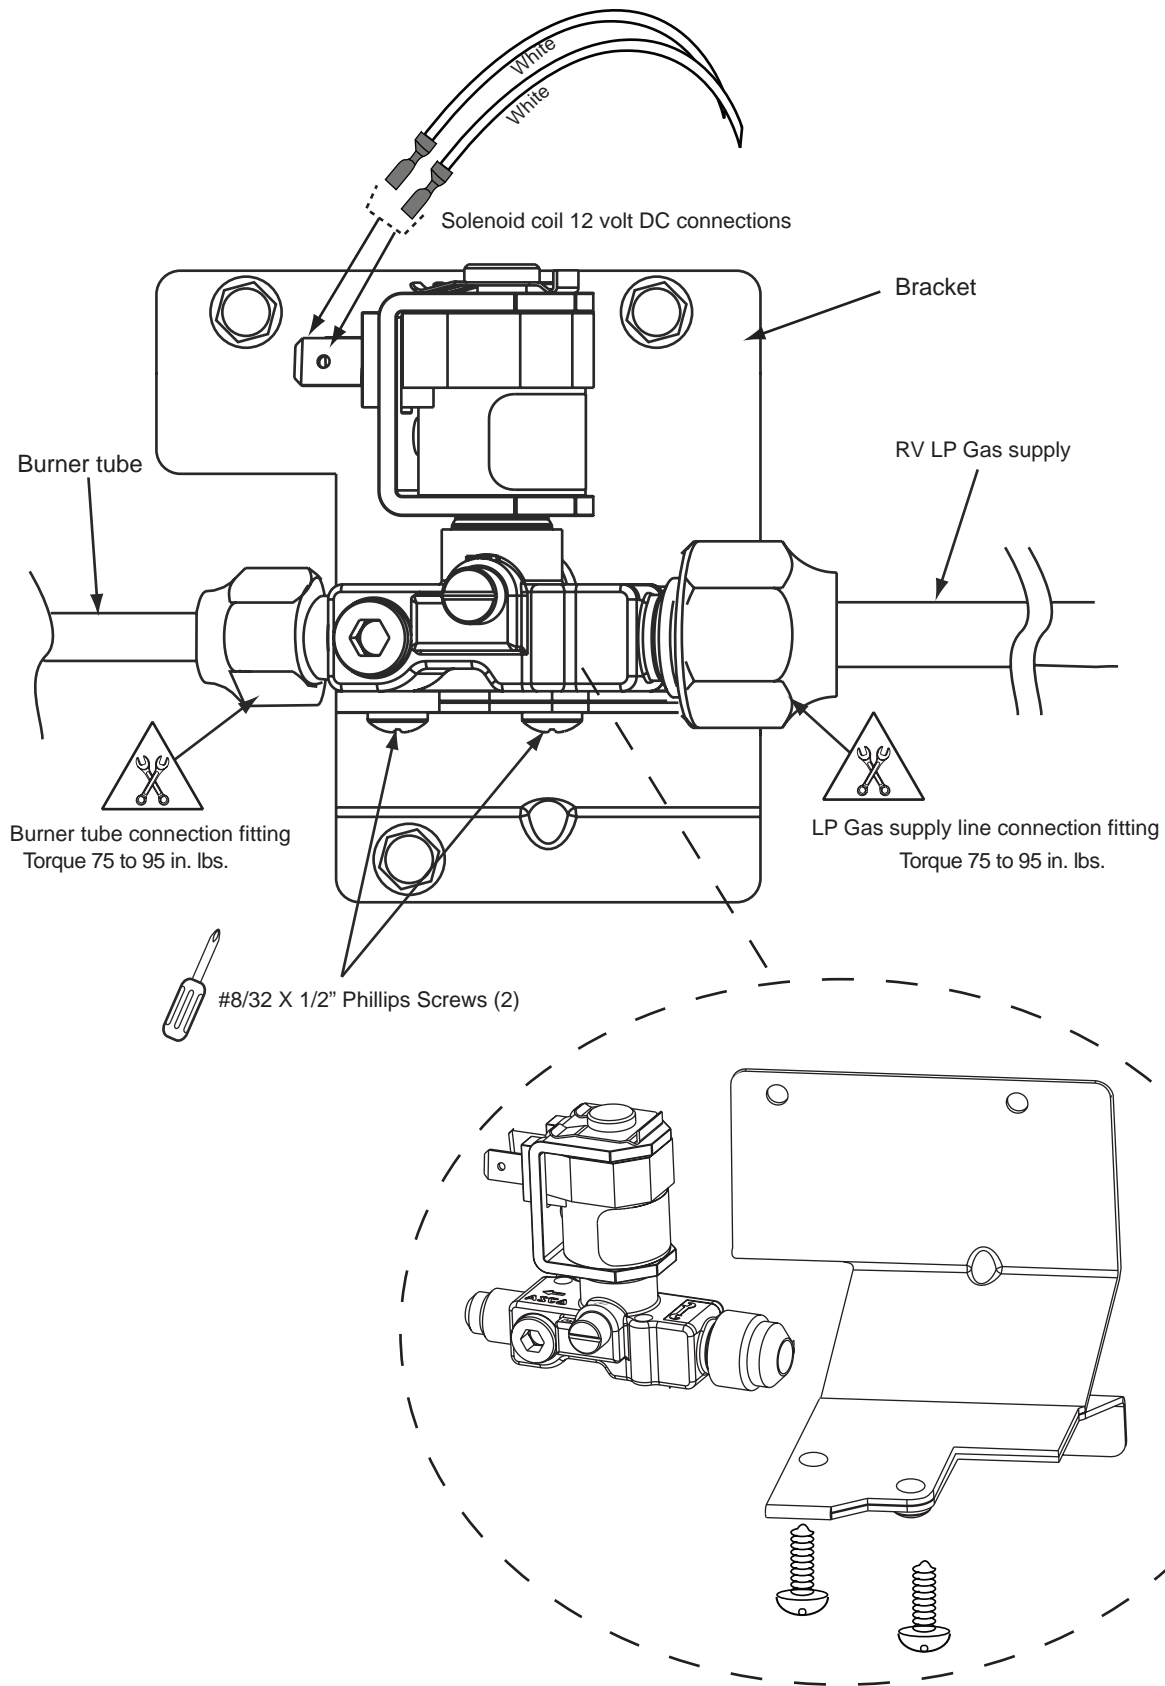

Figure 4-3. —Gas valve replacement.
For steps 6 through 12 refer to Figure 4-3, page 36.
8. Remove two, #8/32 X 3/8" Phillips screws that hold the existing gas valve to the bracket, then remove the valve. See Figure 4-3, page 36.